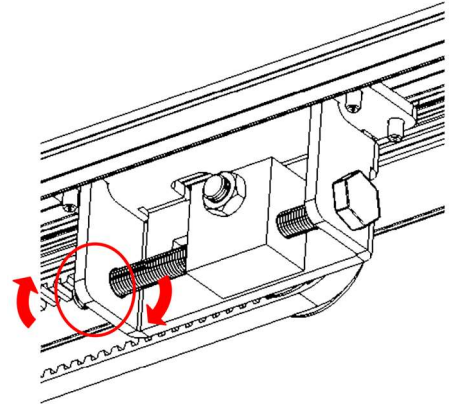

Figure 35: Loosen the locking nut.
5. On the belt tensioner, loosen the locking nut (located on the long tensioning bolt – see Figure 35).